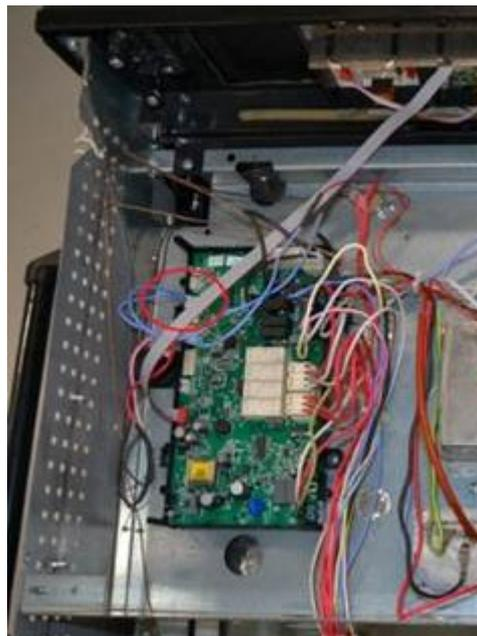

Figure 3
5. Disconnect the terminals (fig.3).